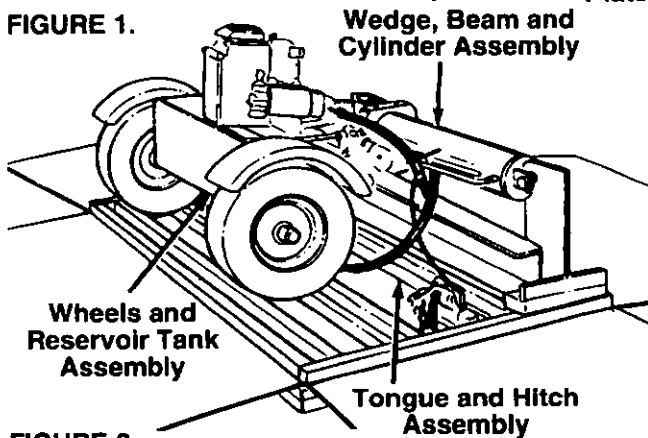

FIGURE 2.
- Cut carton down along each corner. Lay carton down flat. See figure 2.
← PARTS IN CARTON (See figure 2)